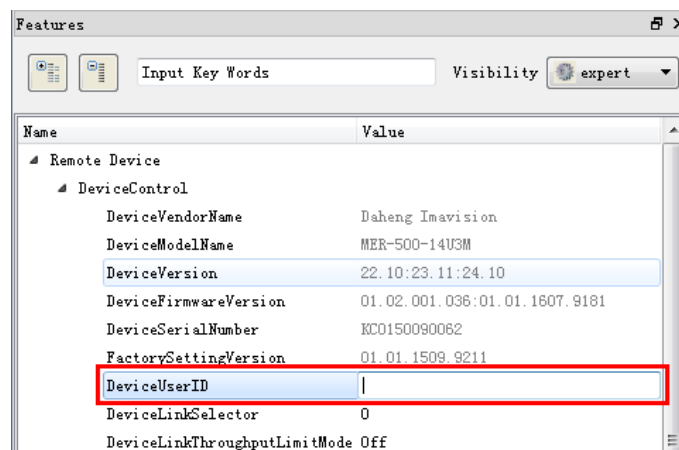

Figure 8-46 GalxyView software
- 1) Set by the GalxyView, as shown in the Figure 8-46.